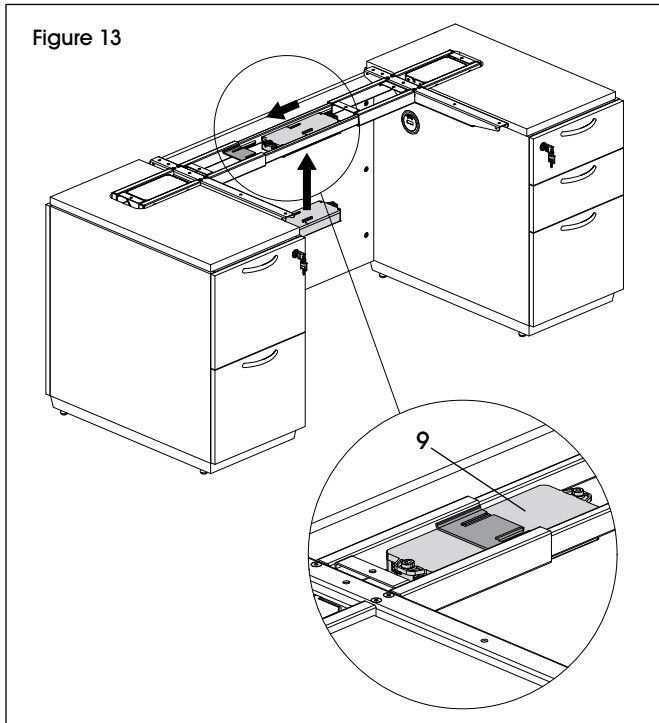

Figure 13
13. Slide control box (9) into place underneath center frame (8). (See Figure 13)